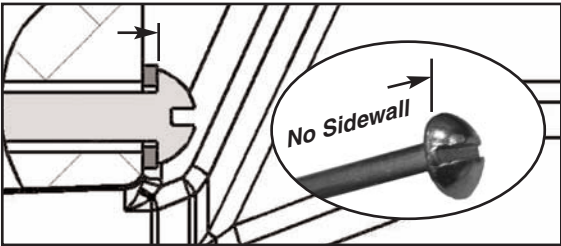

Figure 4 - Pan-Head Through Bolt (If found alternator must be repaired)
- a. If a pan-head through bolt is installed, return the affected alternator for repair per 3.C, Corrective Action. Refer to Figure 4.